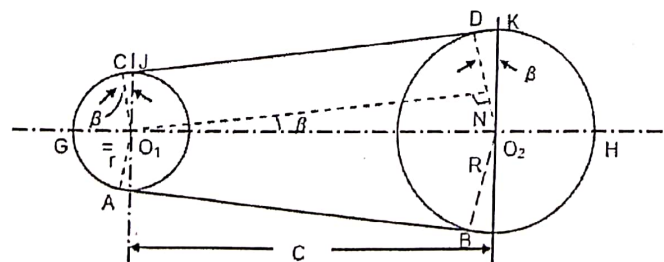

Figure 5
- By means of simple geometry, derive an expression for the total length of an open belt drive using approximation for small angles where relevant. Use Figure 5 below as guide